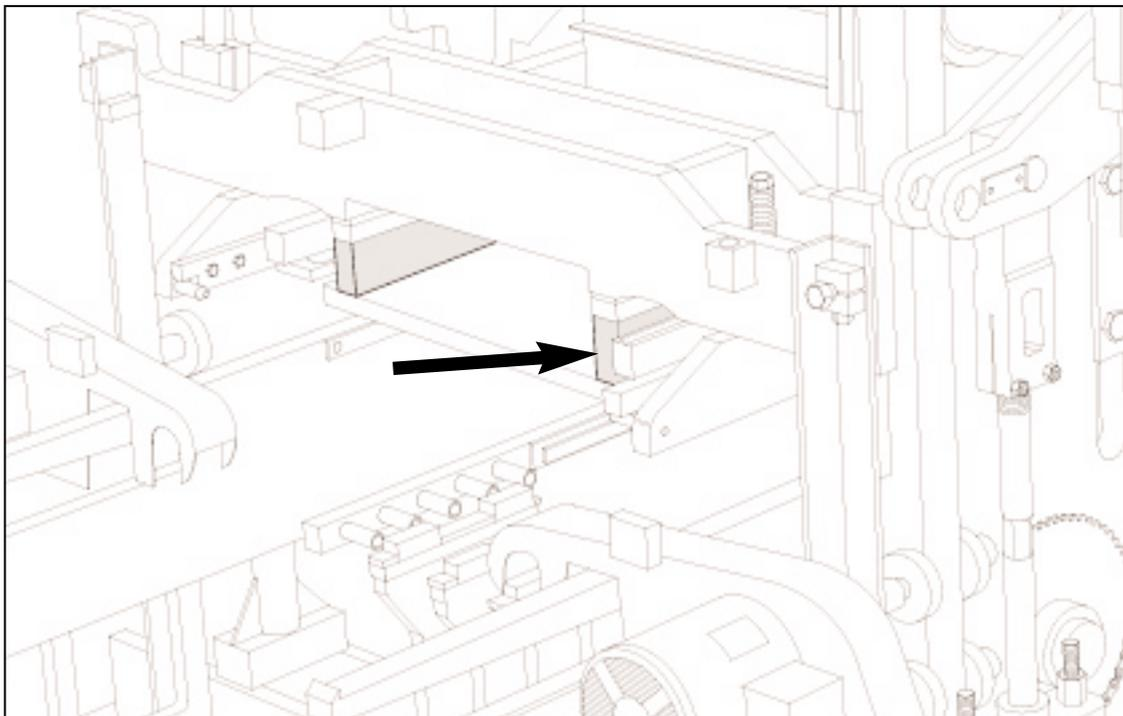

Figure 4.30 2 1/8" [54mm] BLOCKING UNDER STRIPPER HEAD FRAME.
4.2.8 The ULTRAPAC II is now ready for the installation of the mold assembly. Follow the directions for installing an attachment in section 5 of this manual. When installing the stripper head, insert **2 1/8" [54mm]** of blocking in addition to the **1 1/2" [38 mm]** blocks already affixed to the stripper head frame (figure 4.30). The above blocking assumes a stripper head height of **14 3/16" [360mm]** from the top of the head plate to the bottom of the shoes.